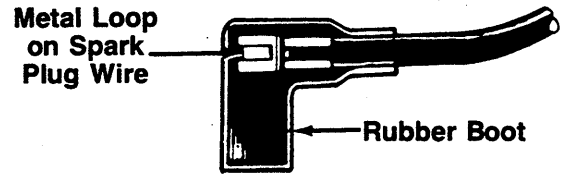

FIGURE 18.
1. Attach spark plug wire to spark plug. Make certain the metal loop on the end of the spark plug wire (inside the rubber boot) is fastened securely over the metal tip on the spark plug. See figure 18.